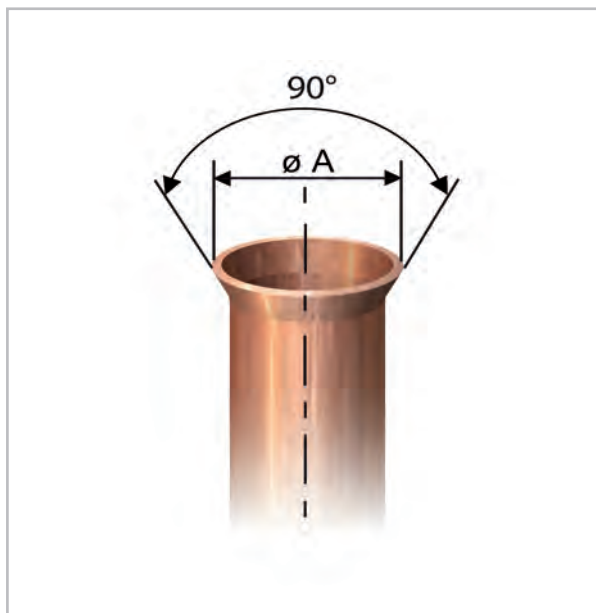

Fig. 32: Correct flange shape
9. ➤ Verify that the shape of the flange is correct (Fig. 32).